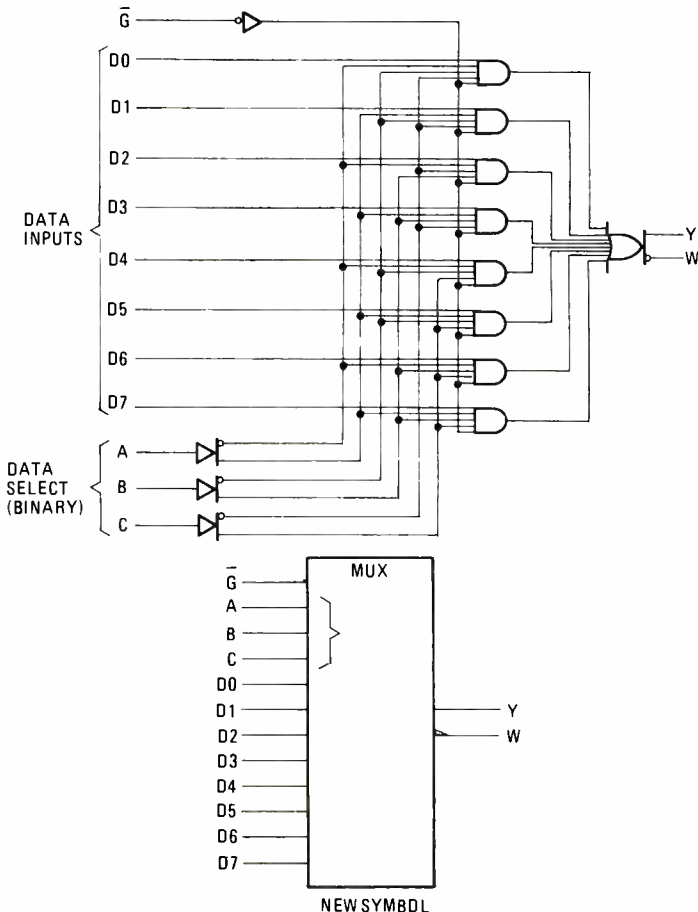

Fig. 11—A 74151 1-of-8 data selector/multiplexer integrated-circuit chip is illustrated using old and new logic symbols.
Larger multiplexers can also be constructed. An 8-input multiplexer or 1-of-8 data selector is shown in Fig. 11. A 3-bit address (ABC) is used to select one of the inputs D0-D7. A common line \bar{G} enables the circuit. Note also that both normal (Y) and complement (W) outputs are available. The old and new logic symbols are illustrated.